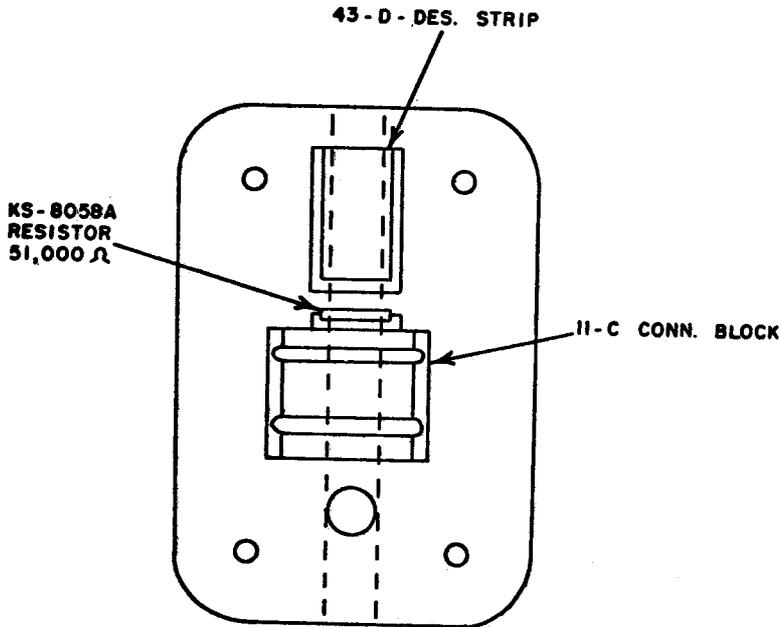

FIGURE 1
7.01 Change to read: The final termination of the radio program supply loop shall be made per SNET Co. drawing 2-F-140, List 1, (Figure 1). The final termination will be considered the line of demarcation between the Telephone Company and customer facilities. It will be identified as described in 7.03 (d).